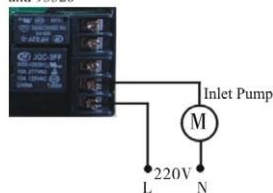

Figure3-14 Wiring of Inlet Pump Power Less Than 1KW
G. Inlet pump and soft water pump connecting as Figure 3-14/15/16/17 (Only for 93620 and 93520)